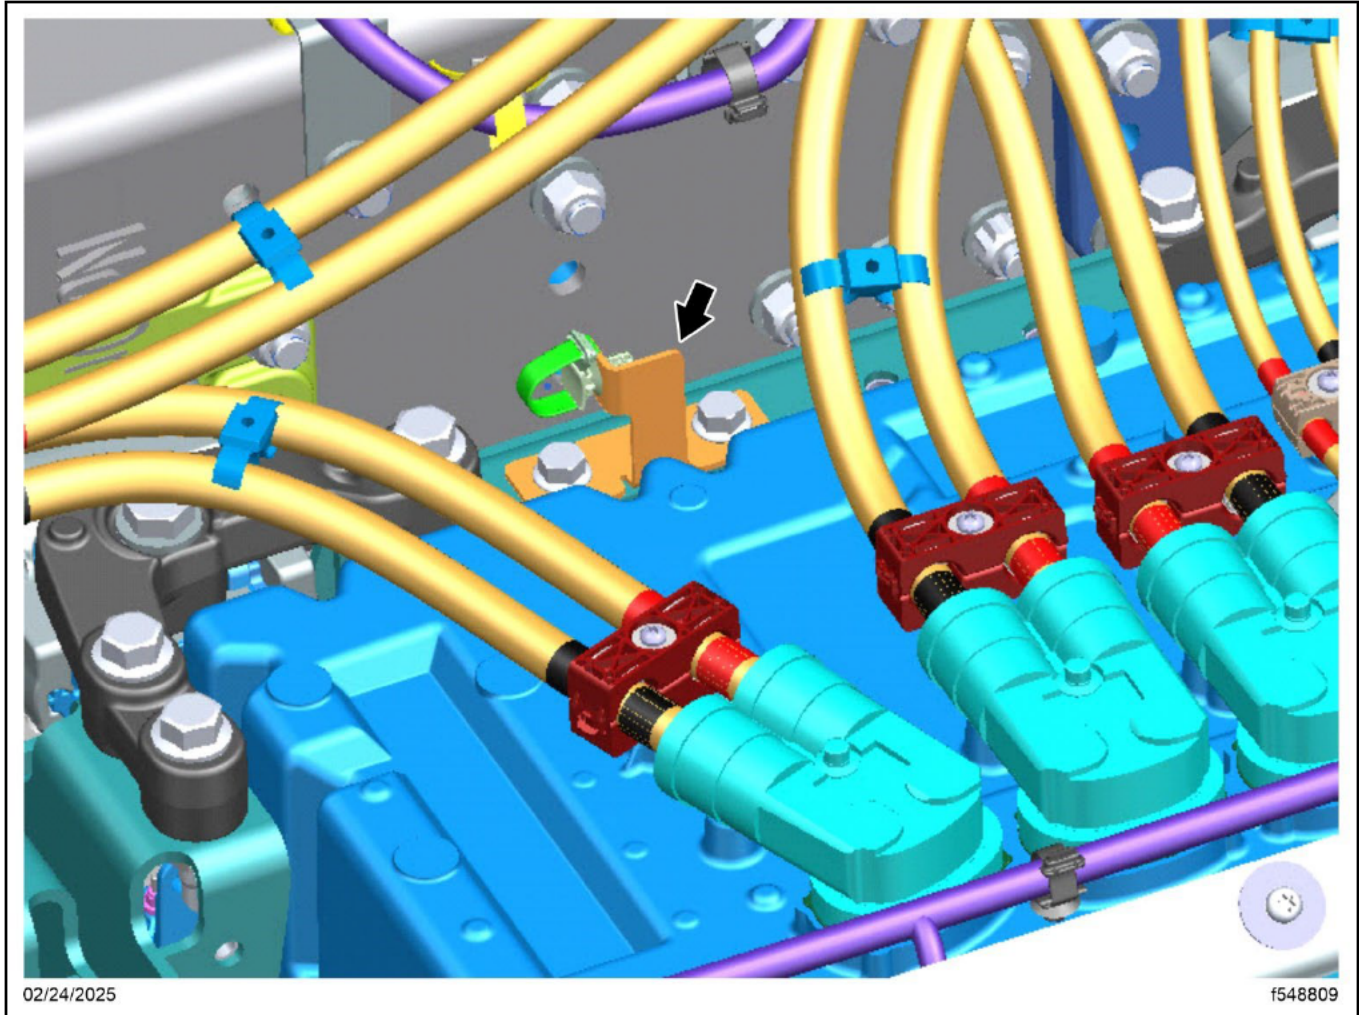

Fig. 3, Old EQ Cable Bracket
12. Remove the old HV cable bracket from the HV battery B1. See Fig. 3.